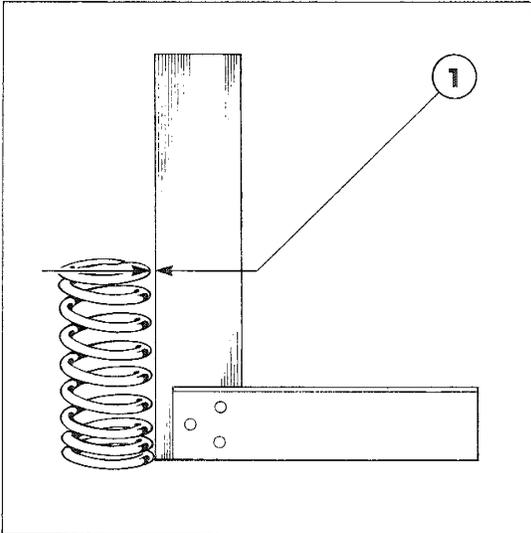

Figure 15
10. Replace worn or damaged valve springs. Check for squareness and reject if out-of-squareness exceeds 0.06 in. (1.5 mm), Figure 15. Check the free length and loaded length of each valve spring, see "Specifications"—Chapter 4. Ensure the valve spring retainers locks are in good condition and the exhaust valve rotators are not binding or worn.